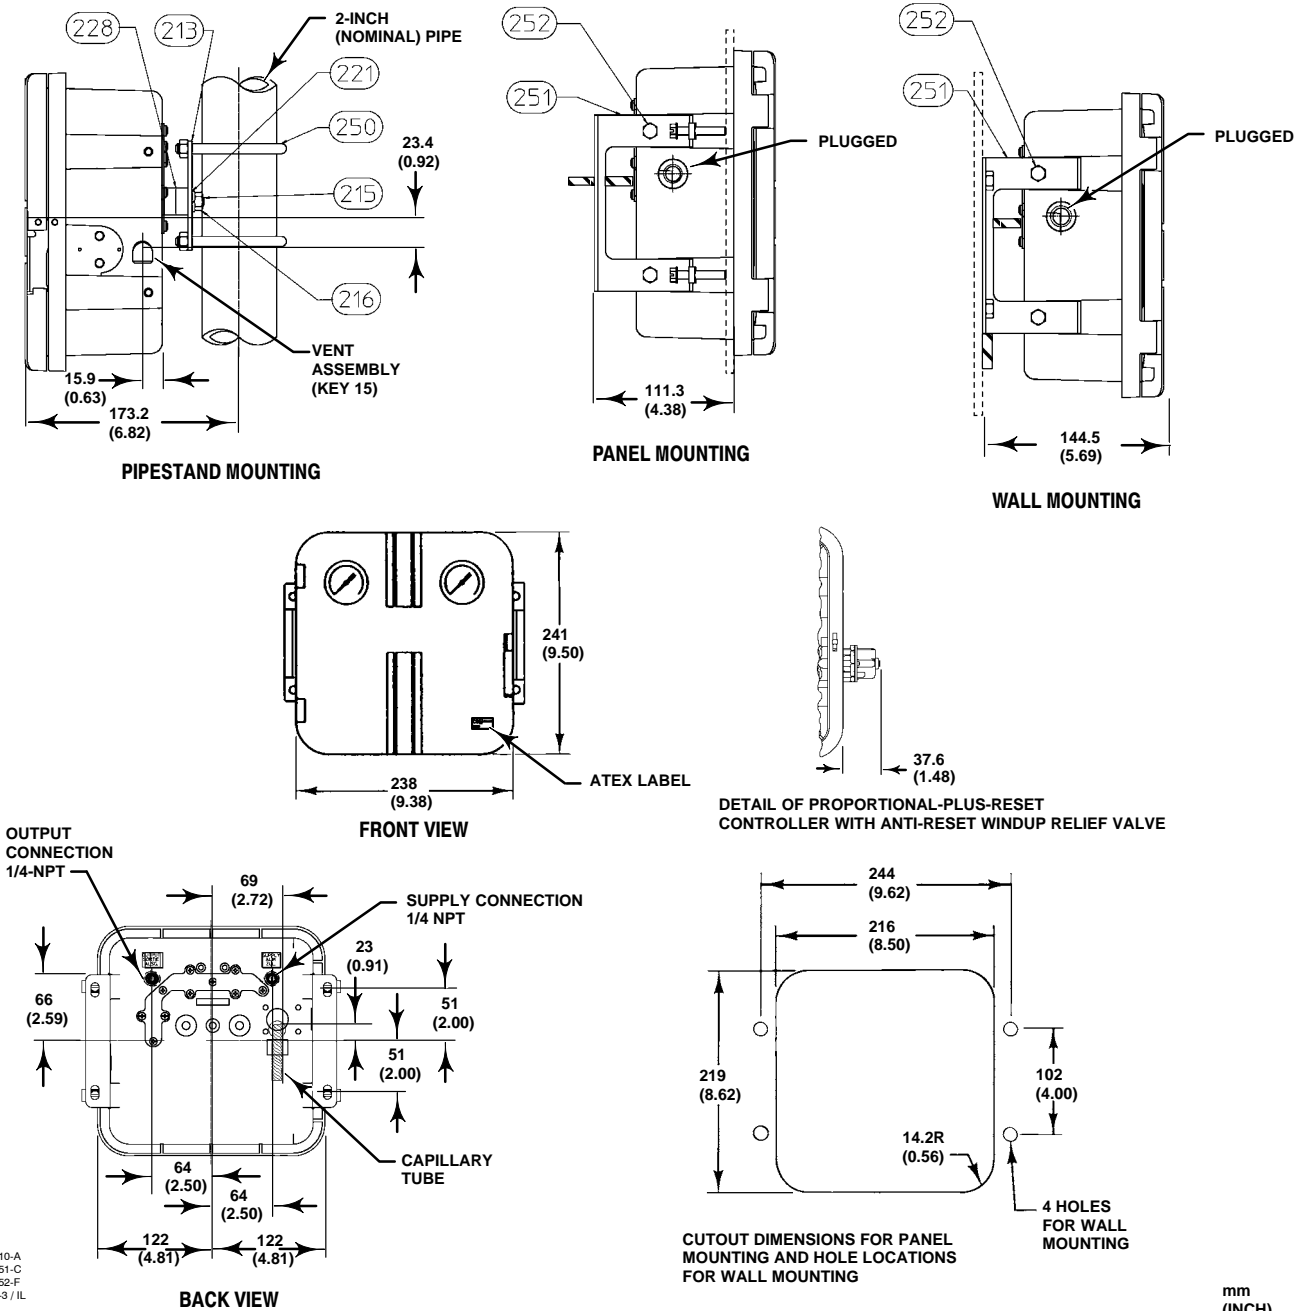

Figure 3. Panel, Wall, and Pipestand Mounting
<p>Typical Ambient Temperature Operating Influence</p> <p>Proportional Control only: $\pm 3\%$ of output span for each 28°C (50°F) change in temperature for a controller set at 100% proportional band</p> <p>Reset Control only: $\pm 2\%$ of output span for each 28°C (50°F) change in temperature for a controller set at 100% proportional band</p> <p>Process Temperature Indication</p> <p>Standard on all controllers and calibrated for the temperature range ordered</p> <p>Exterior Tubing</p> <p>Standard: 6.4 mm (1/4-inch) Optional: 9.5 mm (3/8-inch)</p> <p>Capillary Lengths</p> <p>Standard: 4.6 m (15-foot) Optional: Consult your Emerson Process Management sales office for other lengths</p>	<p>Hazardous Area Classification</p> <p>Complies with the requirements of ATEX Group II Category 2 Gas and Dust</p> <p>CE Ex II 2 G D</p> <p>Refer to figure 3 for location of ATEX label</p> <p>Approximate Weight</p> <p>8.2 kg (18 pounds)</p> <p>Declaration of SEP</p> <p>Fisher Controls International LLC declares this product to be in compliance with Article 3 paragraph 3 of the Pressure Equipment Directive (PED) 97 / 23 / EC. It was designed and manufactured in accordance with Sound Engineering Practice (SEP) and cannot bear the CE marking related to PED compliance.</p> <p>However, the product may bear the CE marking to indicate compliance with other applicable European Community Directives.</p>
The controller is normally mounted vertically with the case/cover as shown in figure 1. If installing the controller in any other position, be sure that the vent opening, shown in figure 3, is facing downward. (Note: see the pipestand mounting showing the right side view.)
Cut a hole in the panel surface according to the dimensions shown in figure 3. Remove cap screws (key 252), brackets (key 251, figure 3), and vent (key 15). For Type 4166KF controllers, on the anti-reset windup differential relief valve, note the direction the arrow is pointing and remove the relief valve.
Drill four holes in the wall using the dimensions shown in figure 3. In the bracket (key 251, figure 3) are 8.7 mm (11/32-inch) diameter holes. Remove the two cap screws located on each bracket. These screws are used for panel mounting and are not required for wall mounting. If the capillary tube is to run through the wall, drill a hole in the wall large enough to accept the temperature bulb (see figure 5 for bulb dimensions, and figure 6 for bushing or thermowell dimensions). Refer to the back view in figure 3 for the location of the capillary tube connection in the back of the case.
Attach the spacer spools (key 228) and the mounting plate to the controller with cap screws, lock washers, and nuts (keys 215, 221, and 216, figure 3). Attach the controller to a 2-inch (nominal) pipe with pipe clamps (key 250).
All pressure connections on 4156K and 4166K Series controllers are 1/4 NPT internal. Use 6 mm (1/4-inch) or 10 mm (3/8-inch) pipe or tubing for supply and output piping. Use 13 mm (1/2-inch) pipe for the remote vent pipe, if one is required. Locations of pressure connections are shown in figure 3.
The vent (key 15, figure 3) or the end of a remote vent pipe must be protected against the entrance of all foreign matter that could plug the vent. Use 13 mm (1/2-inch) pipe for the remote vent pipe, if one is required. Check the vent periodically to be certain it has not become plugged.